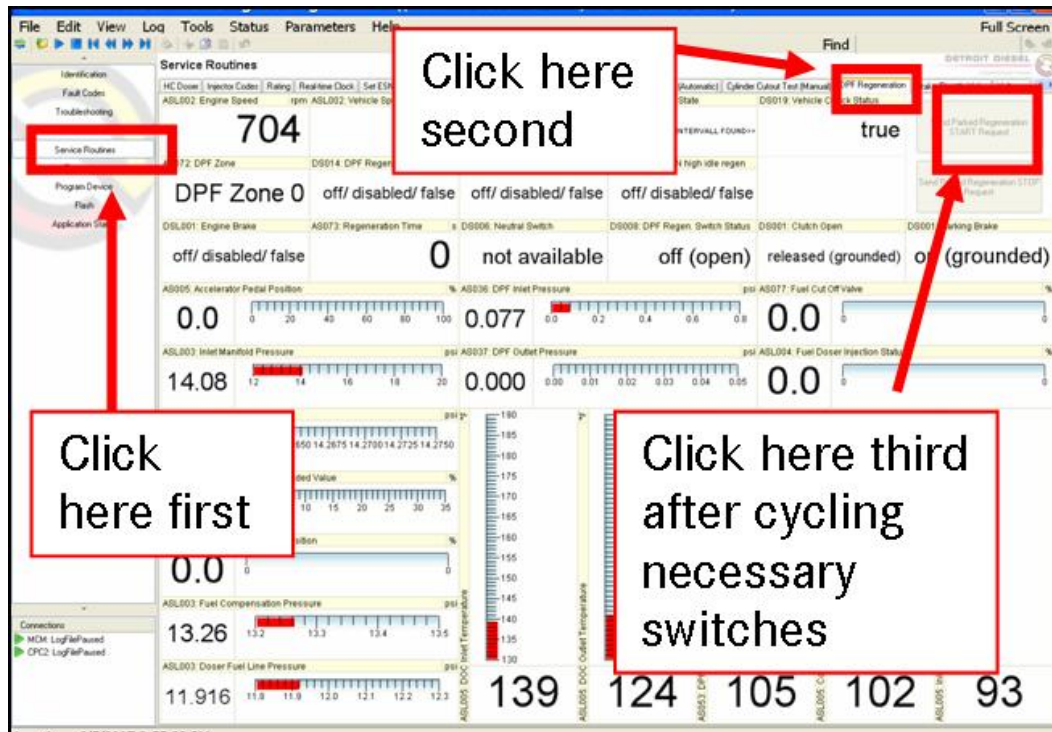

Figure 4 – DDDL/DRS 7.0 “DPF Regeneration” Service Routine
- Make sure the transmission is in neutral and the parking brake set (ON).
- Using either DDDL 7.0 or DDRS 7.0, attach the diagnostic computer to the vehicle. Click on the “Service Routines” button on the left side of the screen and then click on the “DPF Regeneration” tab near the top after scrolling it into view. See Figure 4.